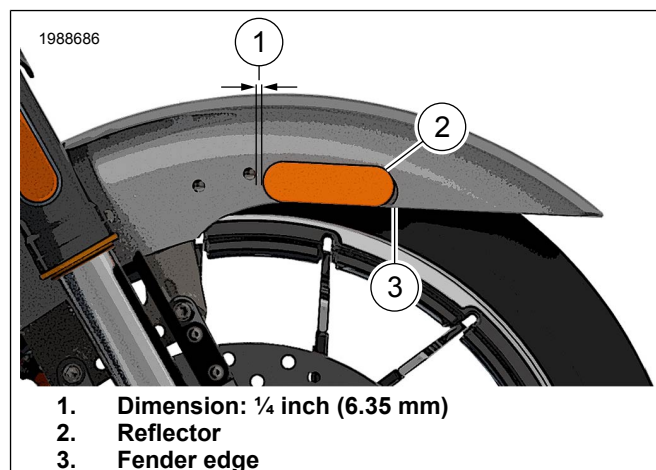

Figure 7. Reflector Placement, Front Fender
1. See Figure 7. Install reflectors on left and right sides of front fender.
See Figure 7. Reflector should be located approximately $\frac{1}{4}$ inch (6.35 mm) (1) from rivet and align to the lower fender edge (3).
- a. Peel liner from tape. Install reflector (2) in position (3) on fork as shown. Press firmly into place.